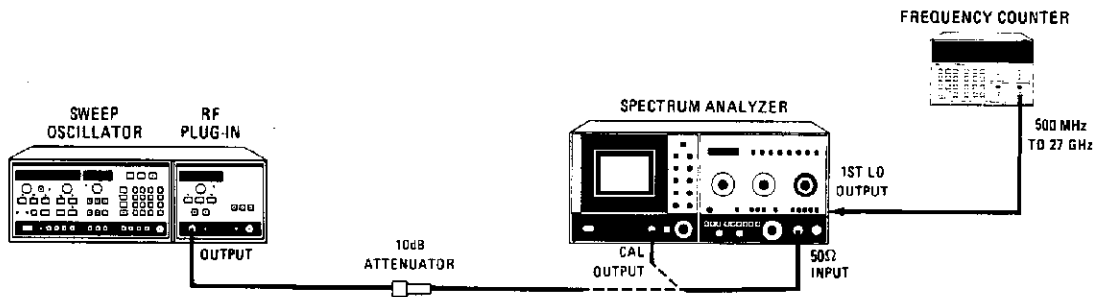

Figure 4-7. Residual FM Test Setup
1. Connect equipment as shown in Figure 4-7. Connect the spectrum analyzer CAL OUTPUT to the spectrum analyzer input